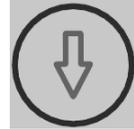

Figure 16 Moving downwards.
- Move the chair downwards by pressing the button that shows a 'down' arrow. The seat of the Elexo will move downwards simultaneously (See figure 16).